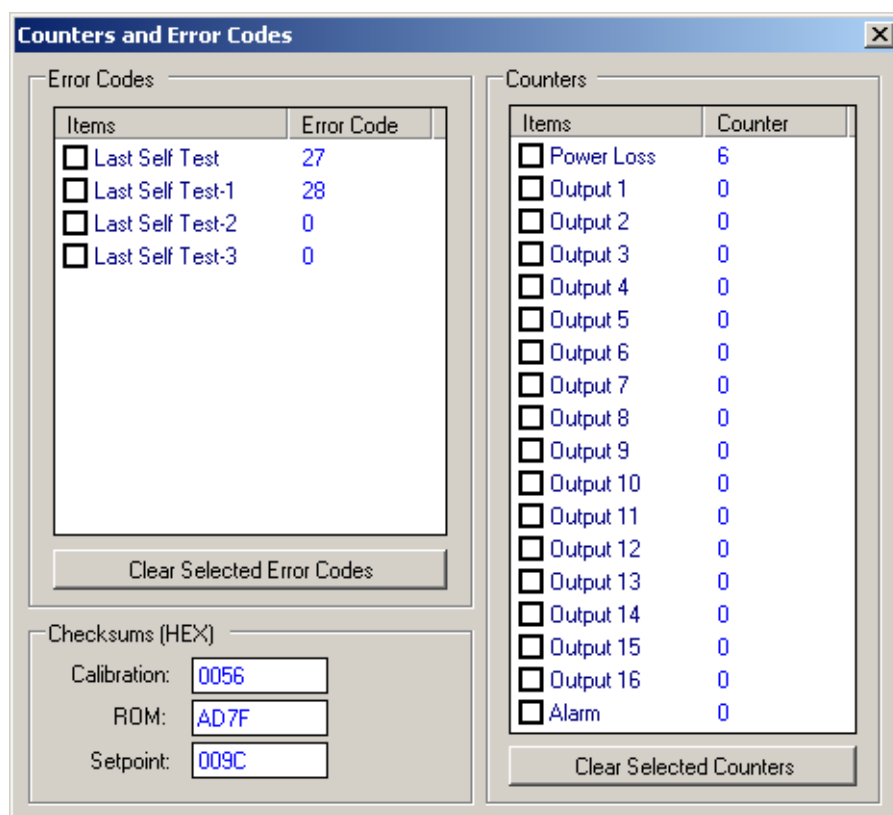

Figure 2-26 Counters and Error Codes Dialog Screen
1. From the IPScom Main Screen menu bar select **Tools/Counters and Error Codes**. IPScom will display the Counters and Error Codes dialog screen (Figure 2-26).